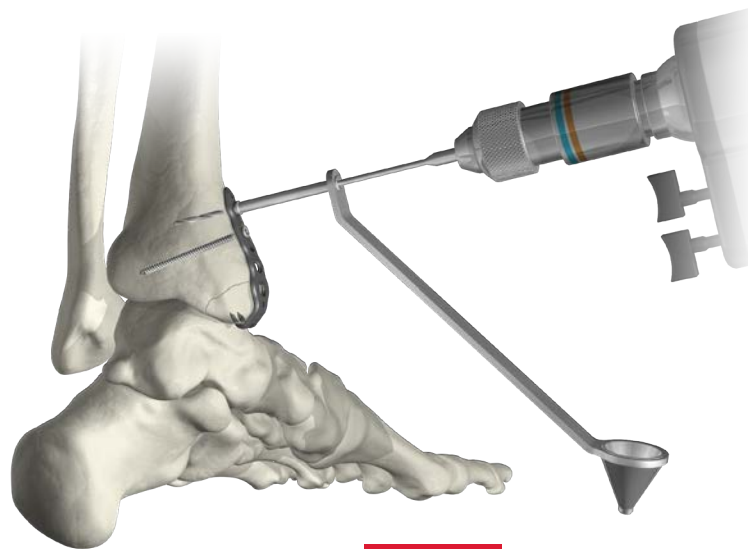

FIGURE 23
8. For the remaining screw holes, select the desired locking or non-locking screw diameter and the corresponding Pilot Drill. If use of a 4.0 cannulated screw is desired, ensure distal screw holes remain empty. Select the corresponding Drill Sleeve, and place it into the desired plate hole. Drill the pilot hole with the corresponding drill diameter at the desired angle of approach through the Drill Sleeve (static or variable angle) (FIGURE 23).